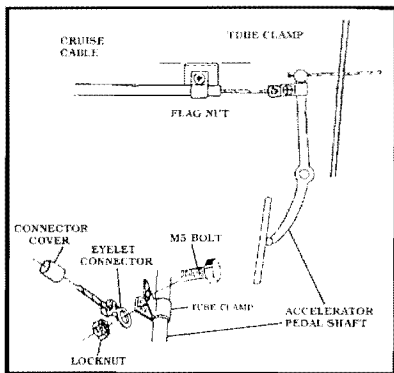

Figure 13
4. Put M5 BOLT through the holes in the TUBE CLAMP. Slide the EYELET CONNECTOR over the bolt. Thread LOCKNUT onto the bolt and tighten. Figure 13